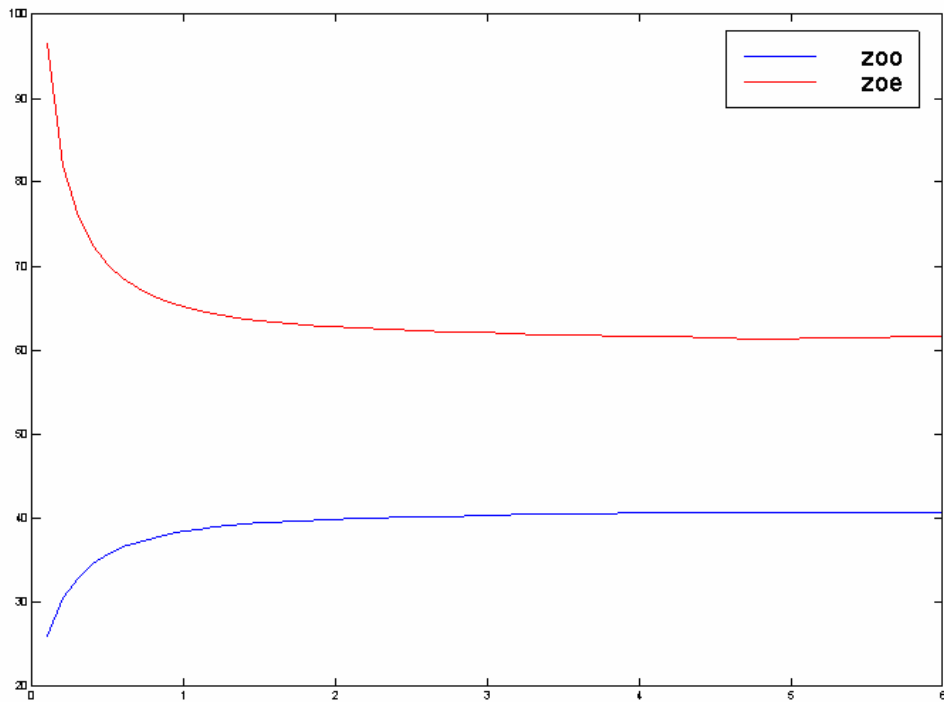
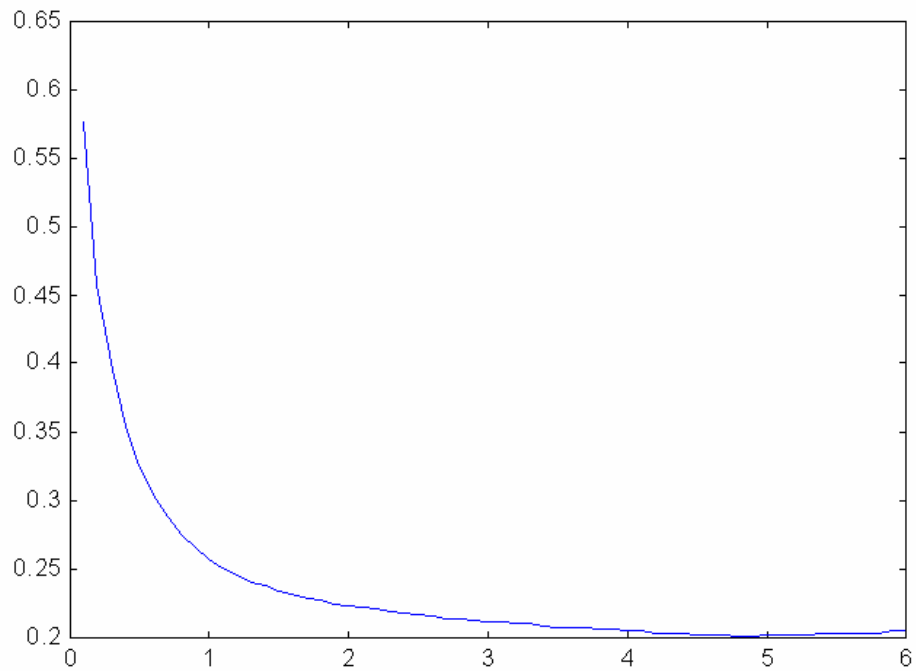

Fig2. Zodd and Zeven VS. S/W
Fig.3 Kc and Km VS. S/W
2. Mutual capacitance and mutual inductance of the coupled differential TL is derived from the actual geometrical, see detail derivation in the matlab file. The result is shown in Fig2 and Fig3. Fig2 shows Odd mode impedance and Even mode impedance Vs.  $S/W$ . We don't need to consider Even mode impedance too much since the common mode voltage on TL is zero for ACCI. Fig.3 shows the coupling coefficient: for lines in homogeneous medium,  $K_m=K_c$ . For case of  $S=5*W$ ,  $K_m=K_c=0.2$ ,  $Z_{odd}=41\text{ohm}$ (that is Differential impedance is 80ohm).